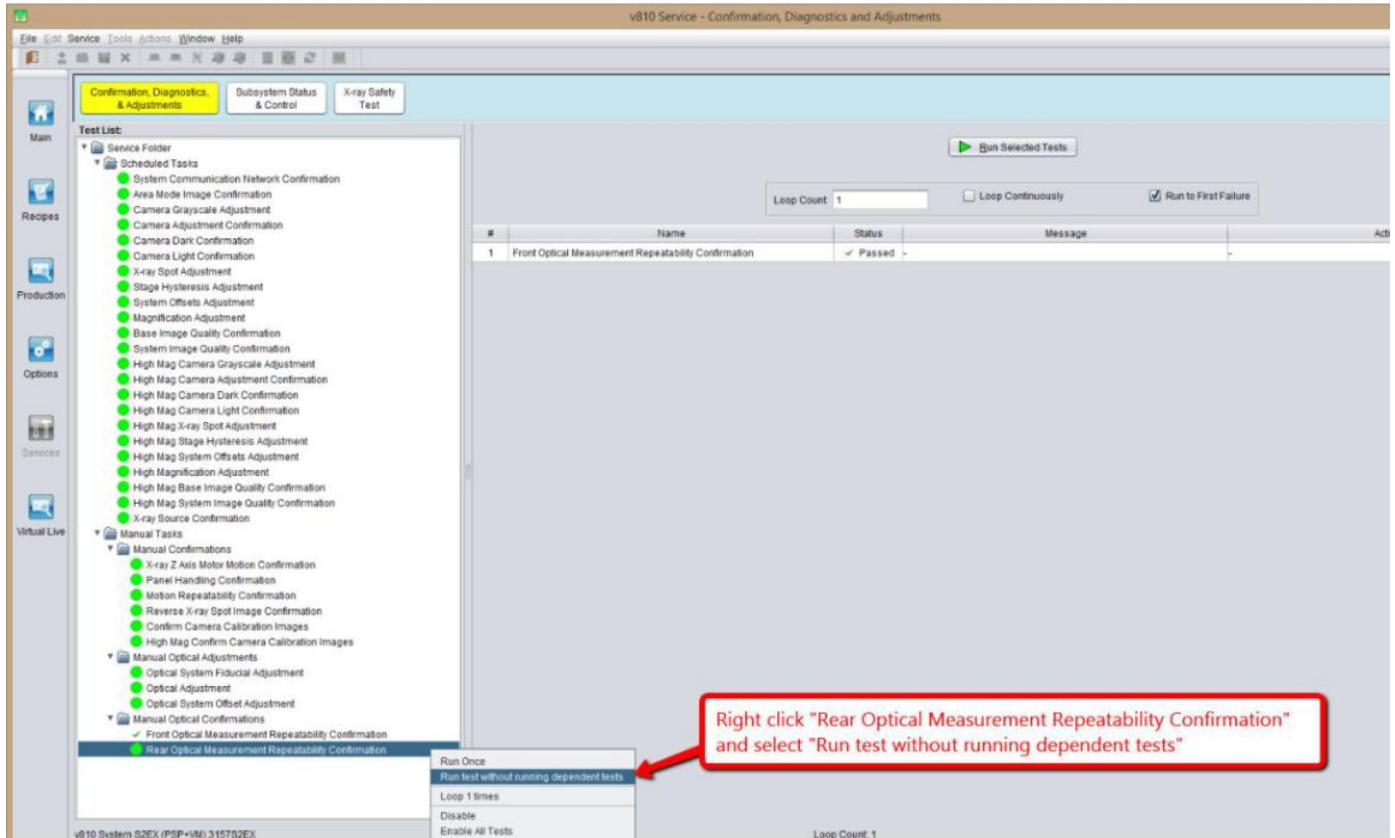

Figure 41 Front Optical Measurement Repeatability Confirmation
31. At **Confirmation, Diagnostics and Adjustment (CD&A)**, under the **Manual Optical Confirmation**, right click **Front Optical Measurement Repeatability Confirmation** and select **Run test without dependent tests** as shown in the Figure 41.